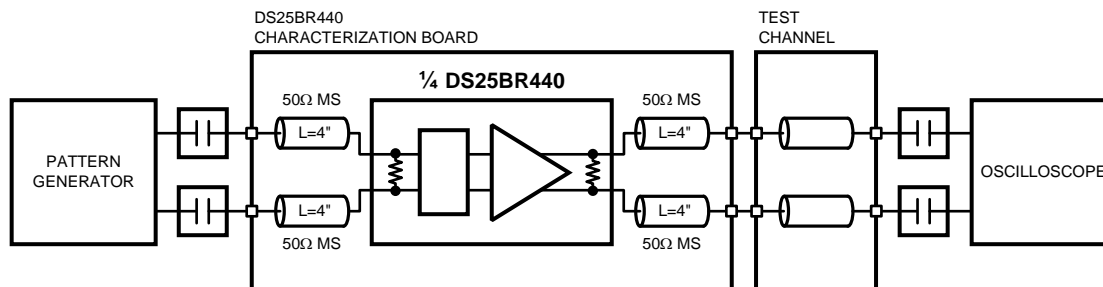
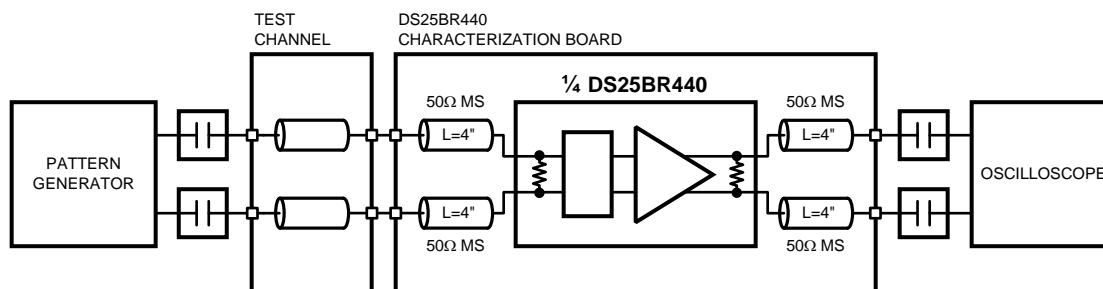
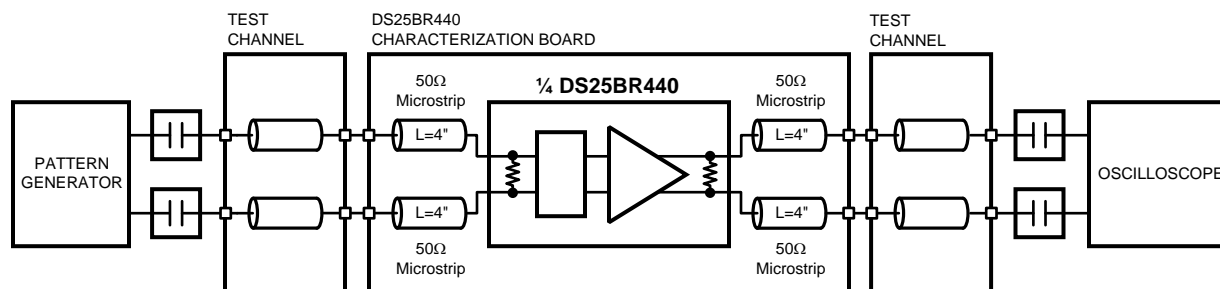
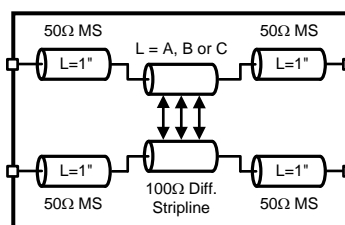

Figure 6. Pre-emphasis Performance Test Circuit
Figure 7. Equalization Performance Test Circuit
Figure 8. Pre-emphasis and Equalization Performance Test Circuit
Figure 9. Test Channel Block Diagram
JITTER PERFORMANCE WITH EQ = Off, PE = On (3) (Figure 6, Figure 9)
JITTER PERFORMANCE WITH EQ = On, PE = Off (11) (Figure 7, Figure 9)
JITTER PERFORMANCE WITH EQ = On, PE = On (11) (Figure 8, Figure 9)